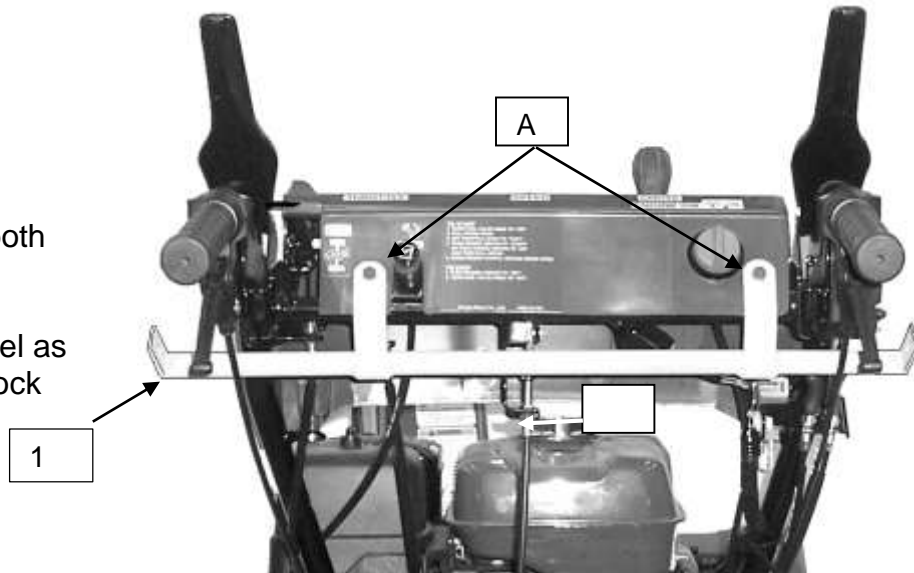

Figure 2
Step 2; See Figure 2: Install The Cross Bar (1).